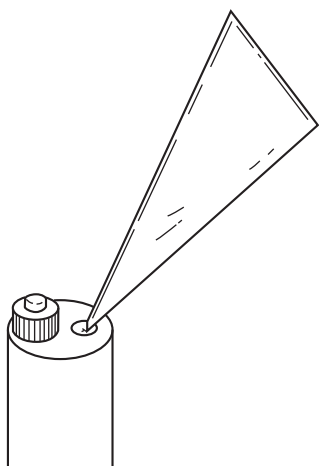

Figure 3.2 Pouring KCl Powder into Sensor
- (2) Remove the sensor from its holder. Wipe off dirty areas on the sensor tip.
- (3) Remove the liquid junction from the sensor. Leave the glass electrode mounted securely.
- (4) Drain the KCl solution in the sensor through the liquid junction mounting hole.
- (5) Wash the inside of the sensor. Pour about a 10 mL KCl solution (or pure Water) into the sensor from the liquid junction mounting hole. Shake the sensor and then drain the solution or pure water completely from the sensor.
- (6) Pour about 10 or 12 grams of powder into the sensor. Use a bag of KCl powder when using the optional KCl solution kit, Cut off the tip of the bag and follow Figure 3.2 below. If the KCl powder has hardened, break it up into pieces. Then do the above.